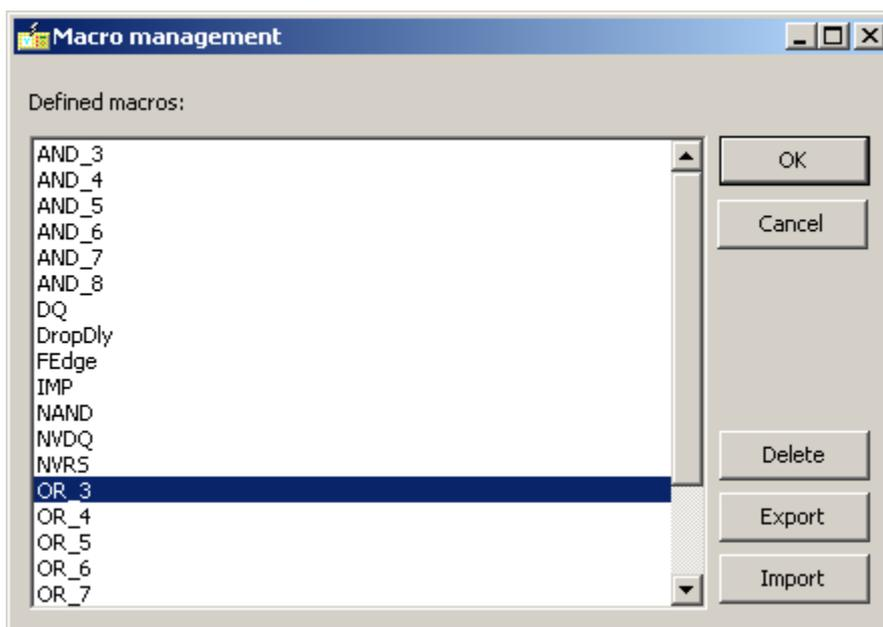

Figure 6-5 Example for macro selection
- The example needs OR connection of three signals (two binary inputs and the DLD function output). This can be achieved using two OR gates, or simply using a predefined macro clicking the **Mac** icon, then selecting from the list of factory-defined macros according to Figure 6-5.
The macro must be named in the *Macro name* dialog box, then the “OK” button is to be pressed for compilation. As a result, the macro can be found on the list of the available macros when the icon  is selected on a sheet. See Figure 6-5. In the window shown in this figure, “Export” means saving the selected macro in a file for application in other configurations, while “Import” means that a ready-made macro stored in a file can be imported to the active configuration’s list of available macros. The imported macros must be generated by clicking on the “Generate” button on the toolbar, then saved in the configuration file (.cfg).